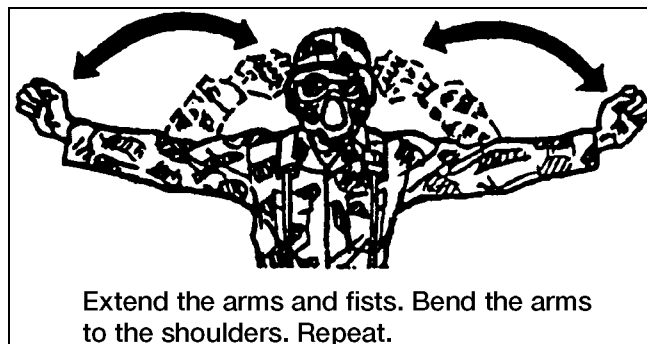

Figure 071-326-0608-9. Nuclear, Biological, Chemical Attack.
c. Perform movement technique signals: Traveling, traveling overwatch, and bounding overwatch (figures 071-326-0608-10 through 071-326-0608-12).